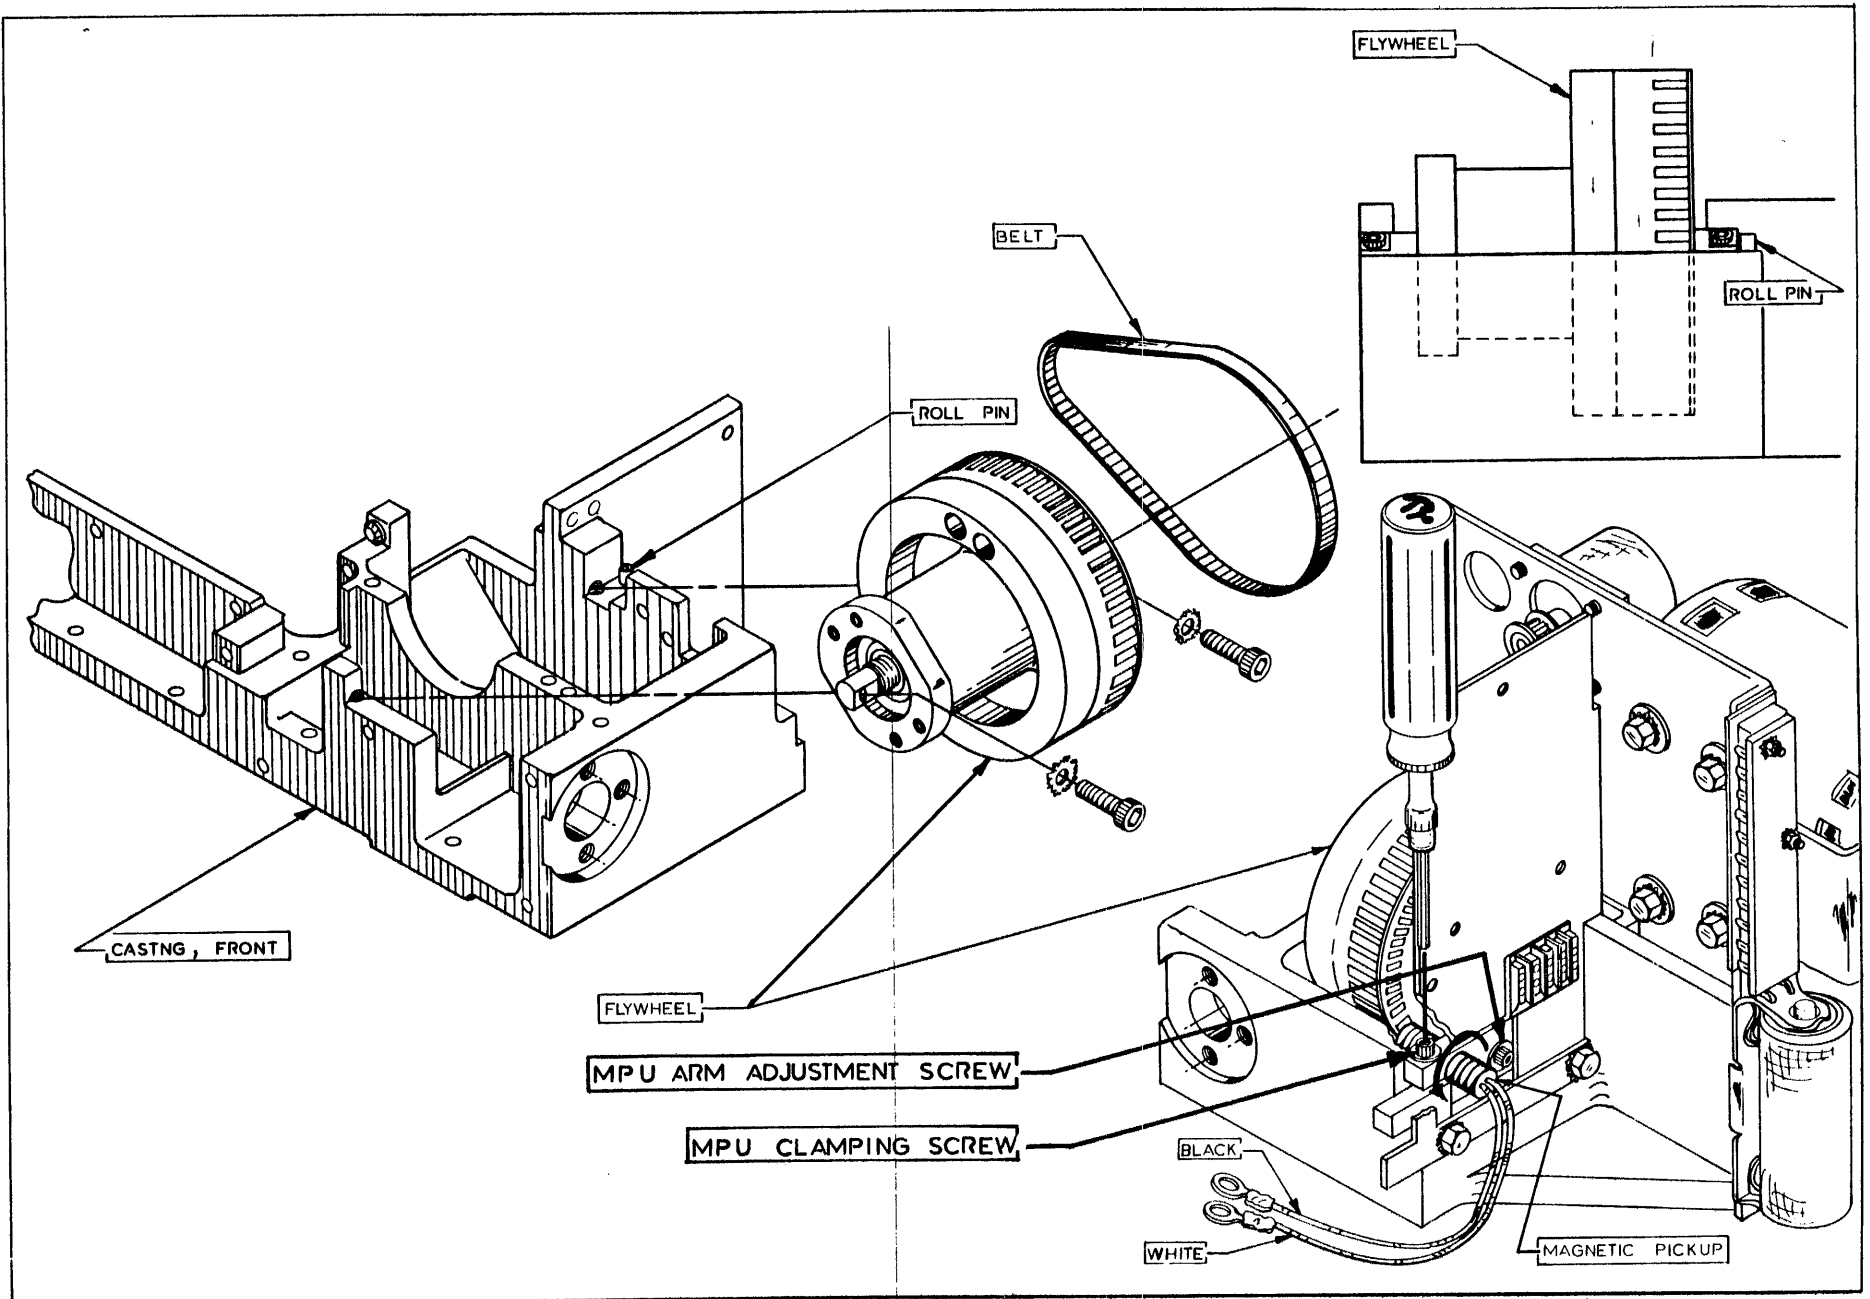

Figure 96 Positioning the Flywheel Shaft
- g. Position the rear end of the flywheel shaft against the roll-pin stop in the main casting (Figure 96). Verify that the flats on the flywheel axle draft are up at 45 degrees and that the axis of the cams high lobes are vertical. Insert the shaft screws into each end of the flywheel shaft and tighten them into the casting.
- b. Loosen the screw behind the MPU arm and turn the MPU arm away from the flywheel as far as the support plate allows (Figure 96).